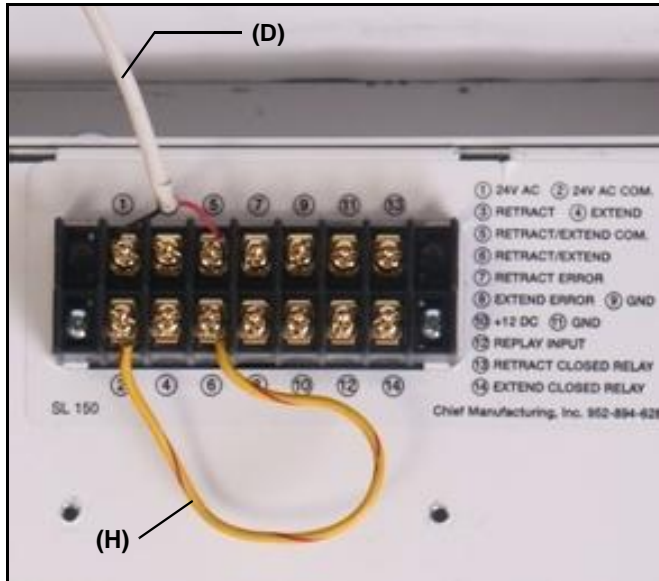

Figure 3
5. Place the jumper wire (H) on the contacts, and wire the push button assembly (D). (See Figure 3). Refer to Table 1: Wiring Table.
2. Remove the jumper wire and supplied push button wiring from the external terminal block. (See Figure 3)
**NOTE:** Any knockouts removed in the SL151 must be replaced with a supplied rubber grommet (G).
5. Secure cables as necessary using supplied mounting pads (E) and cable ties (B).